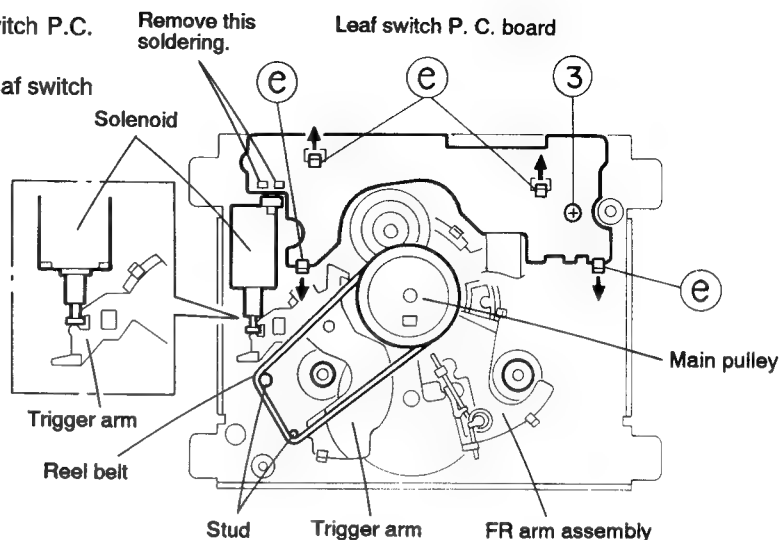

Fig. 5-45
(See Fig. 5-45)
(See Figs. 5-45~5-47)
2. Dismount the reel belt and pull out the main pulley (See Fig. 5-45).